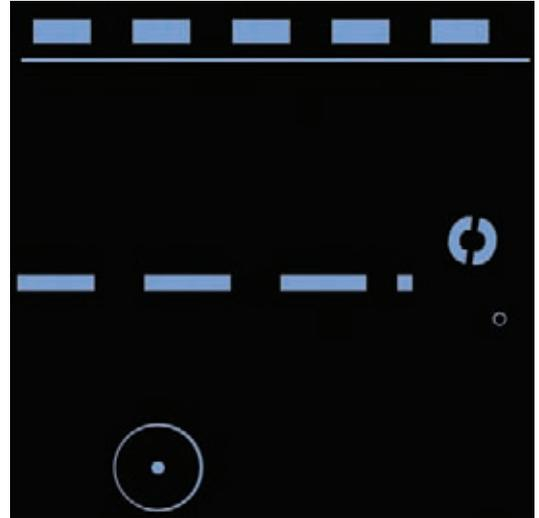

Figure 8.25
4. Create a new layer and place it below the Glow layer. Fill it with black. The result (Figure 8.25) is your emissive texture. Save it as **canister_emissive.tga** (or **canister_glow.tga**).